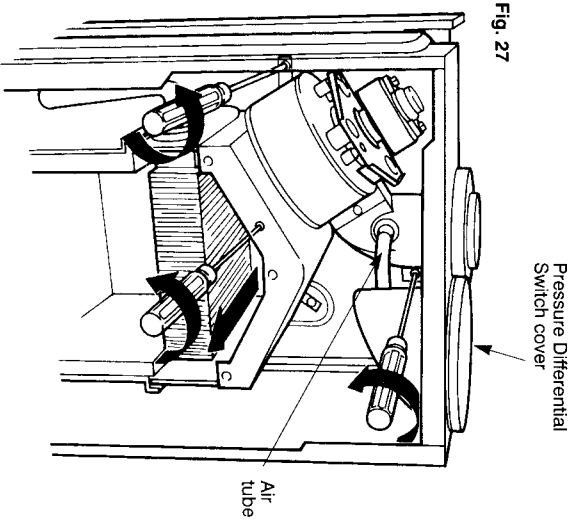

Fig. 27
- 8.9.4** Unscrew maintenance clip securing screws and remove clip (fig 27)
- 8.9.6** Remove 3 flue hood retaining screws (fig 27)
Refer to fig 27